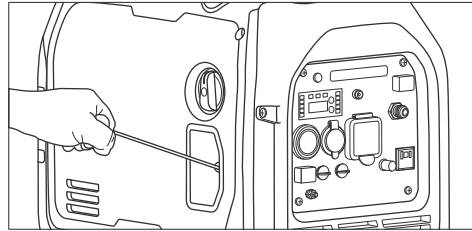

Fig.14
**Tip:** When pulling the hand starter, hold the the generator carrying handle firmly, to prevent the generator from overturning (see Fig.14).